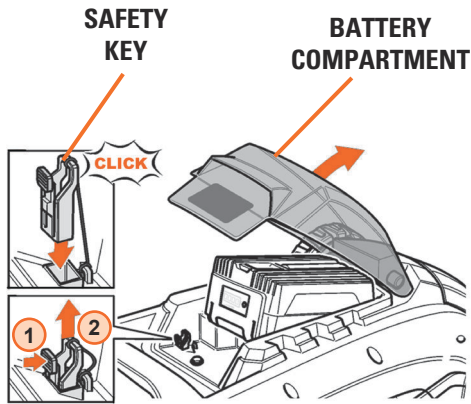

Figure 4
The lawn mower safety key is located under the battery cover (see Figure 4). When the key is removed the power supply to the motor is interrupted. To insert the safety key press down until the key clicks into place. To remove the key, press the lock ① and pull out the safety key ②.